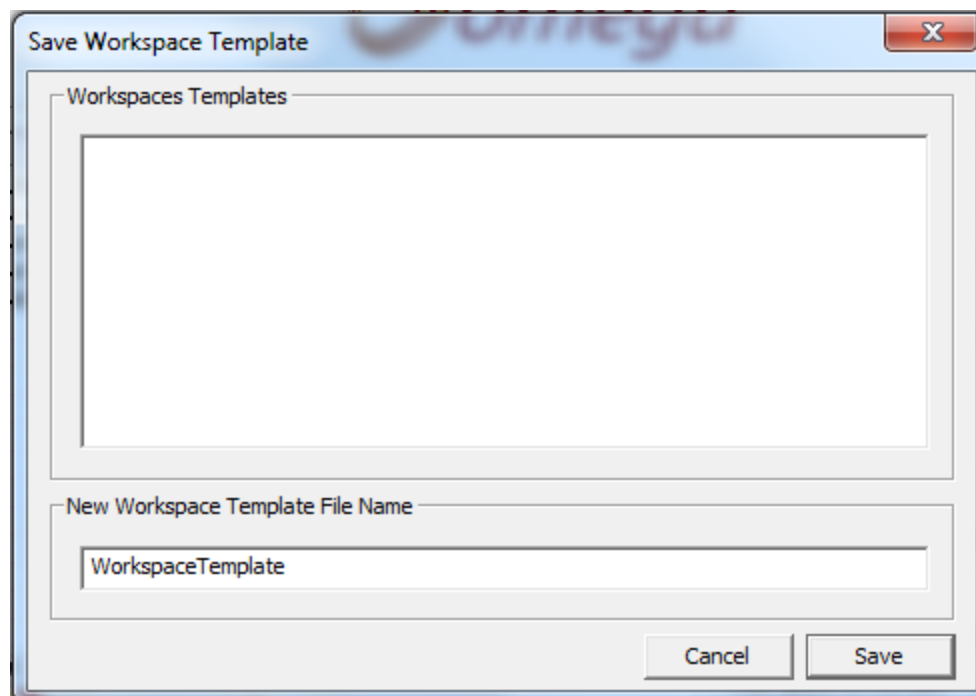

Figure 18: Save Workspace Template
- Press **Next** to continue. A **Save Workspace Window** (Figure 18) will appear.
6. **Save Workspace Window** (Figure 18) will appear. You can change the workspace name or write over the current one.